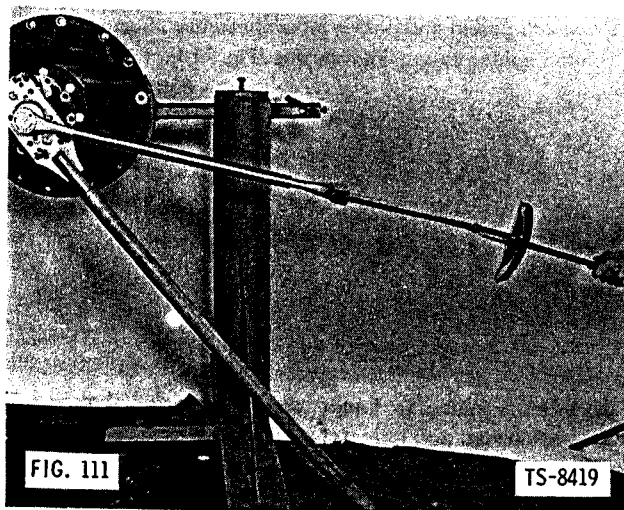

FIG. 111
2. Temporarily install companion flange on end of pinion shaft without installing pinion oil seal retainer. Install companion flange retaining tool on companion flange using spacers shown in Fig. 71, and torque companion flange nut (Fig. 111). Torque values are as follows:
6. Install companion flange on end of pinion shaft with flat washer and nut. Tighten nut as shown in Fig. 111 to torque specifications given in step 2. Secure nut with cotter pin.